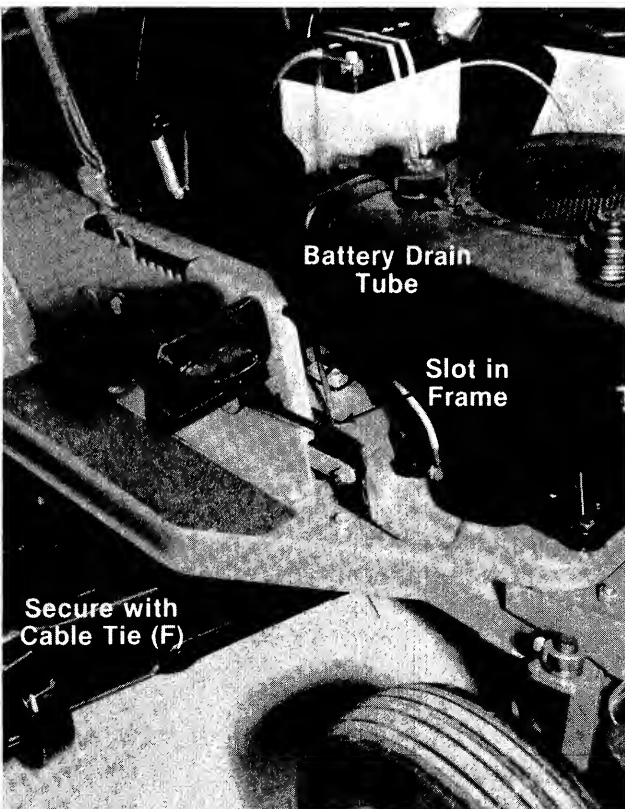

FIGURE 15.
14. Feed the plastic drain tube through the slot in the frame as shown in figure 15.
15. Using cable tie (F), secure battery drain tube to the shoulder bolt at the brake pedal, underneath the deck. See reference number 40 on page 28.